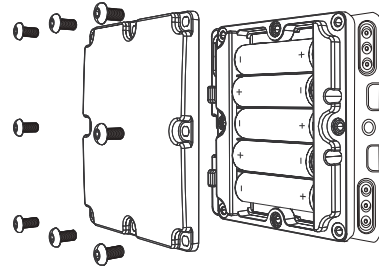

Fig. 42 Replacing 1.5 V batteries
2. Remove the 8 screws (Fig. 42) using a 7/64 " (2.5 mm) hexagon key.